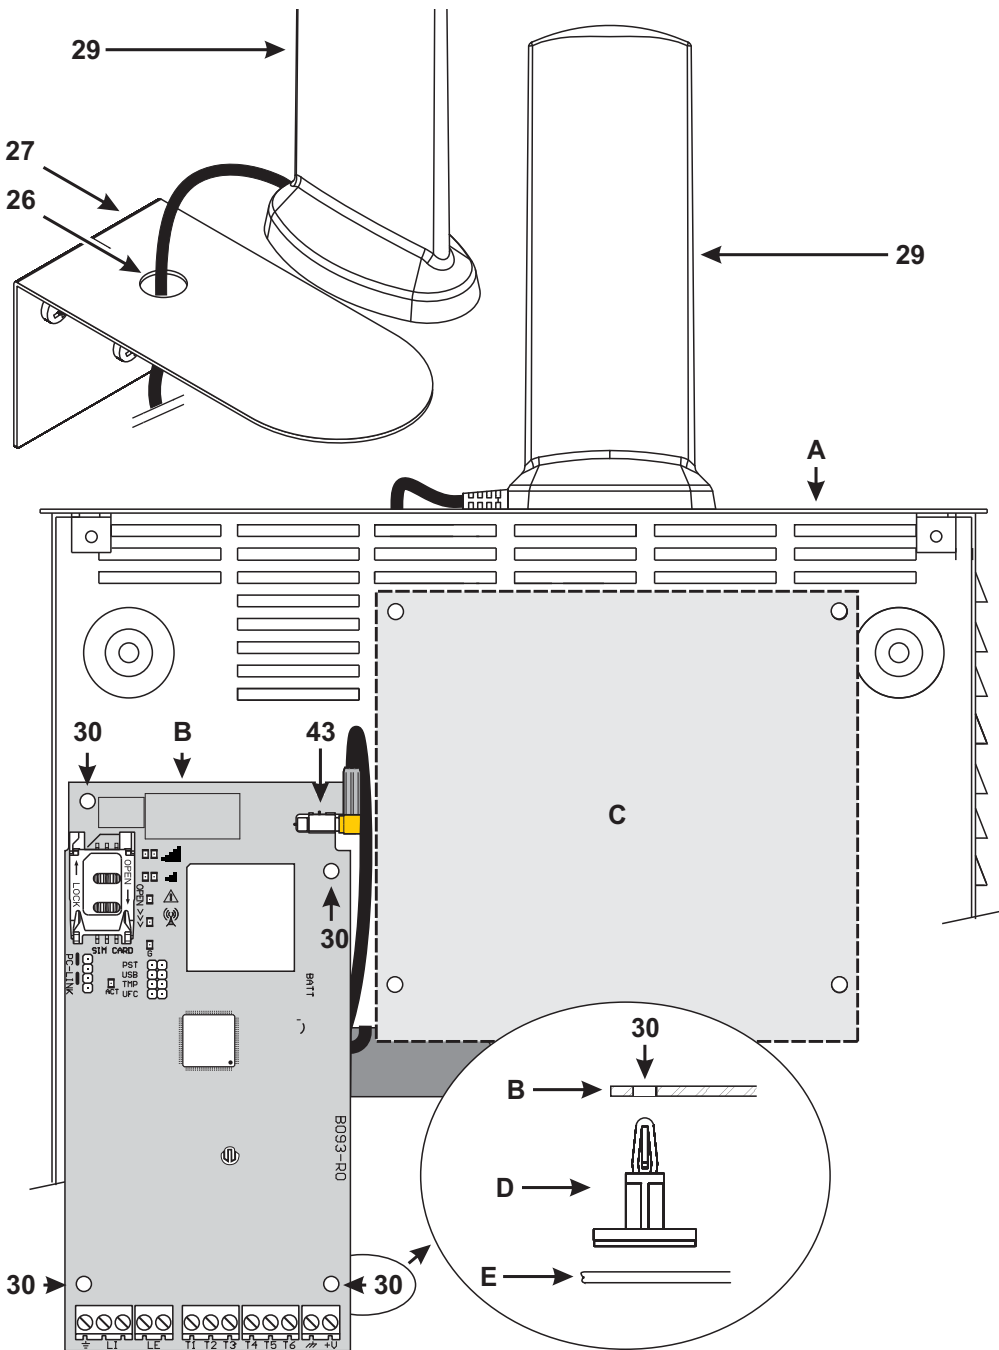

Figure 3 – Installing the kit communicator: A) metal housing; B) communicator board; C) panel motherboard; D) adhesive plastic mount; E) base of metal housing.
To install the kit version, proceed as described below and in figure 3.
3. Mount the four provided adhesive plastic mounts into holes **30** of the communicator, as shown in figure 3.